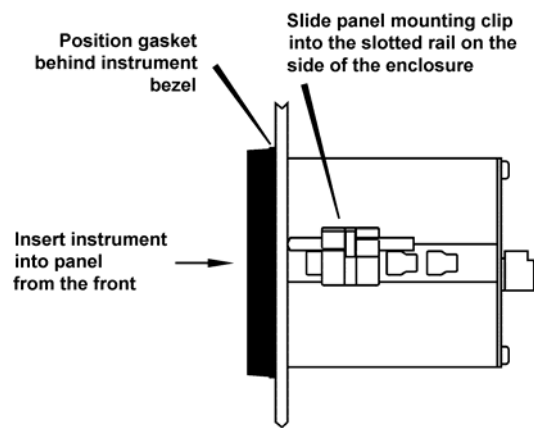

Fig 5 Fitting panel mounting clips
- Fix a panel mounting clip to each side of the instrument and tighten until the indicator is secure, as shown in Fig 5. **Note:** four clips are required to achieve an IP65 seal between a BA508C enclosure and the instrument panel.